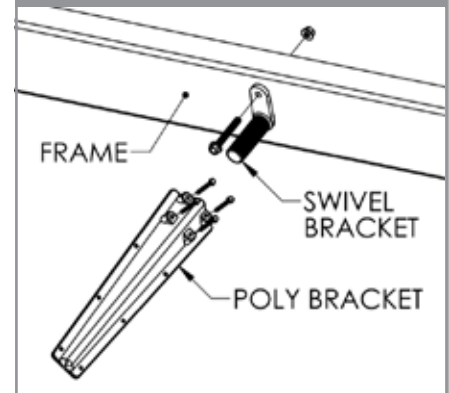

FIGURE 8
- Place four 5/16" x 3" bolts through the (10004593) poly bracket and the (10001486) backing block to clamp the (10001472) swivel. (See Figure 8)